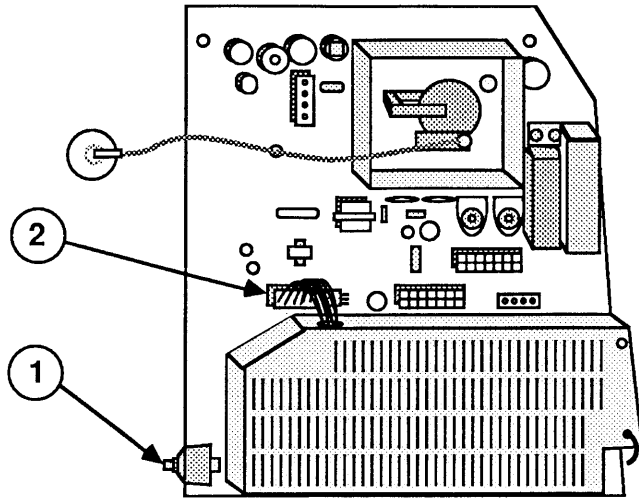

FIGURE 8
10. Carefully move the analog board (with power supply attached) up and away from the chassis, taking care not to bump the CRT or the brightness control knob (Figure 8, #1) at the lower front of the analog board.
11. Disconnect the power supply cable (Figure 8, #2) from the analog board.